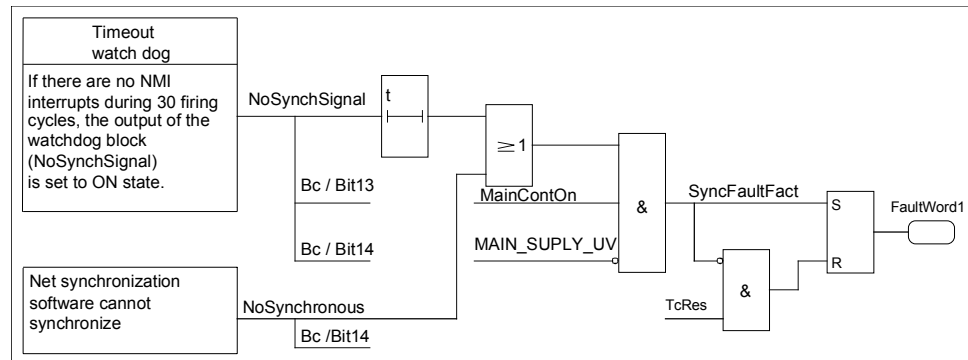

Figure 5-16 Synchronisation supervision
4. The actual Synchronisation Fault is generated, when one of the conditions above is active, the main contactor is closed and there is no Main_Supply_Undervoltage (see Figure 5-16).